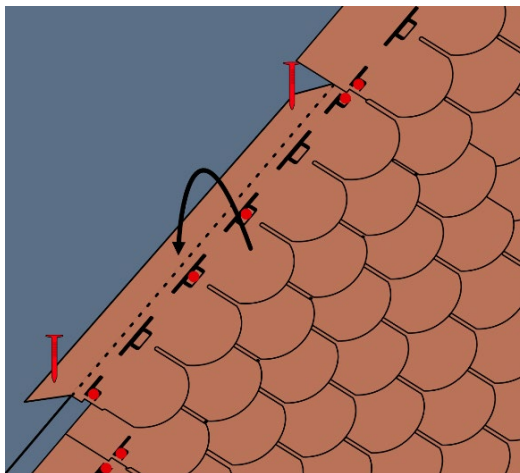

Fig. 9 - Shingles installation at the ridge
- The last row of bituminous shingles must protrude above the ridge line; the excess part will be folded over the ridge line and must be fixed with two nails - Fig. 9.